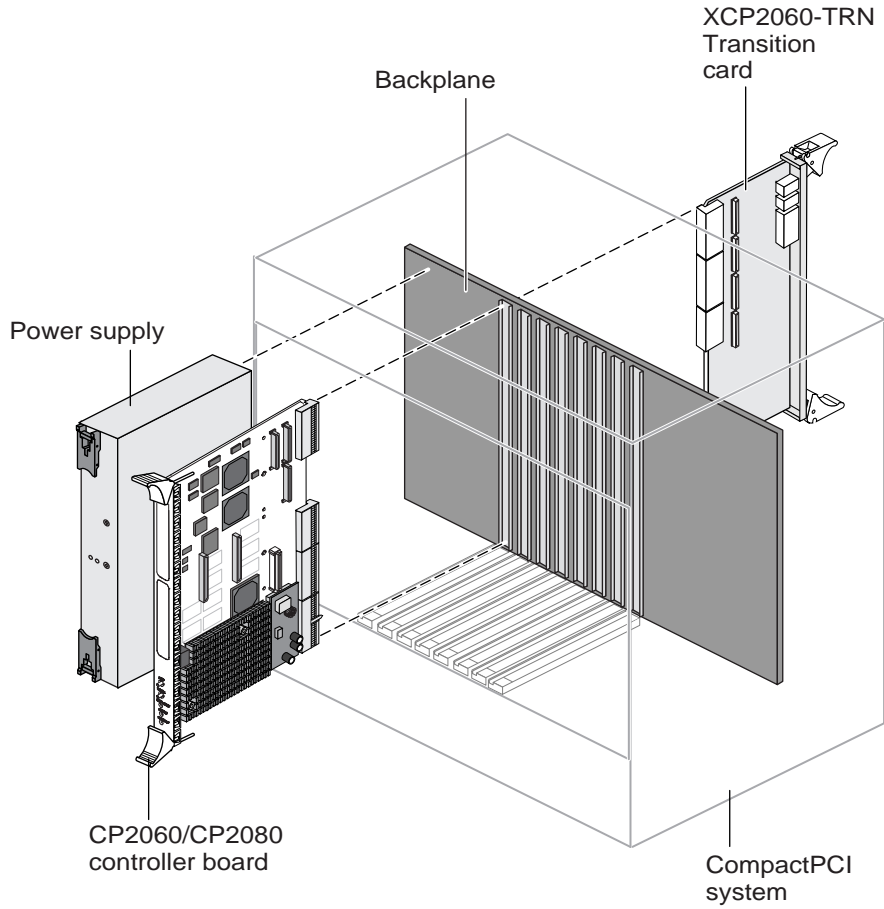
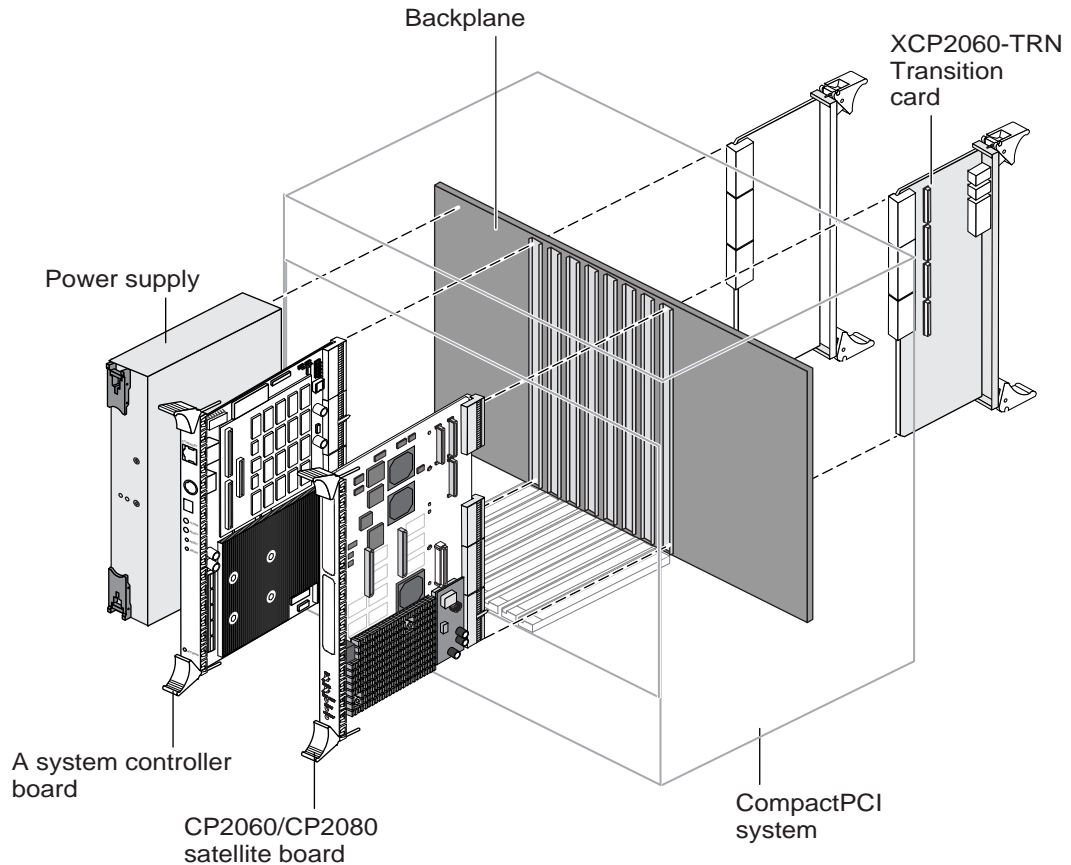

Figure 5-3 Typical cPCI System Illustrating the Netra CP2060/CP2080 Board in System Board Role with XCP2060-TRN Transition Card
Figure 5-4 Typical cPCI System Illustrating the Netra CP2060/CP2080 Board in Satellite Board Role with XCP2060-TRN Transition Card
2. See *Figure 5-3* and *Figure 5-4* for a typical arrangement
The optional XCP2060-TRN Transition Card from Sun Microsystems installs from the rear of the CompactPCI enclosure, opposite the host board whose IO it captures. The transition card connects with the host CompactPCI P3 and P5 connectors through the backplane pins and carries two serial ports and a USB port out to its rear-panel flange. *Figure 5-3* and *Figure 5-4* shows the physical relationship between host boards, transition cards, and the backplane in a typical system.